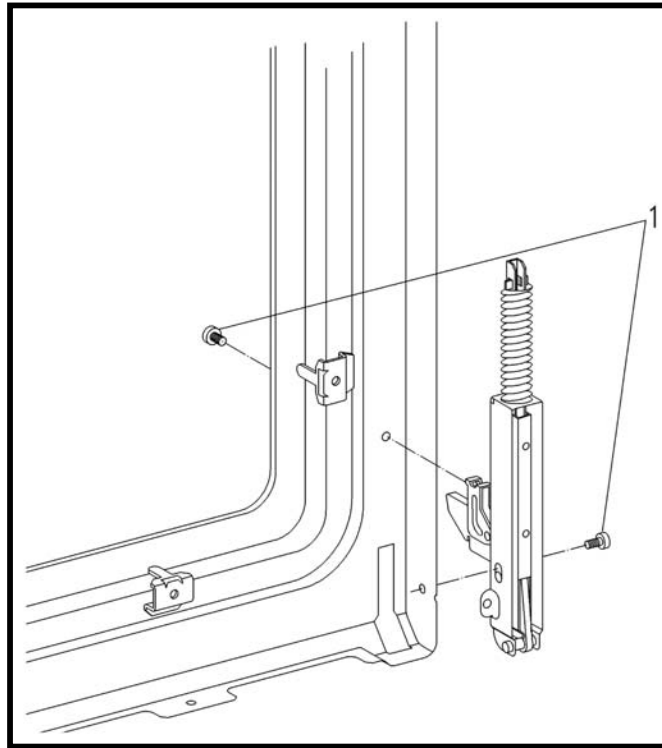

Figure 5-25: Door Hinge Removal
3. Remove Hinge Fastening Screws (Figure 5-25 Item 1)